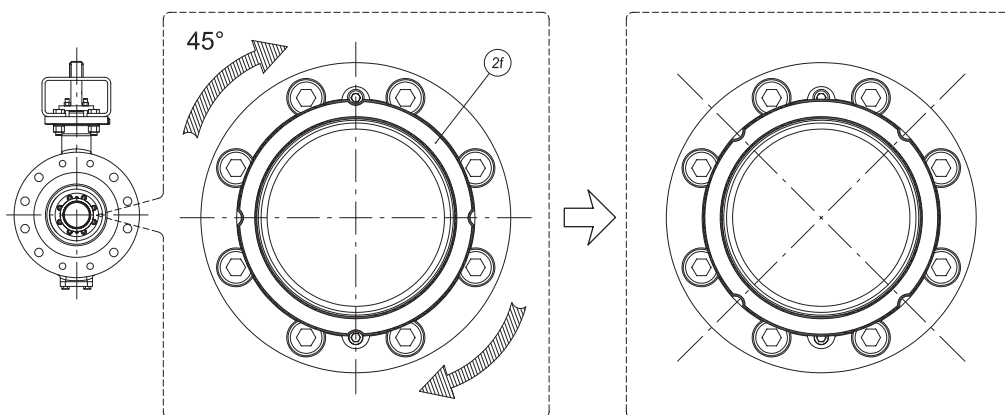

FIGURE 7
3. Rotate the screw securing ring (2f - hereafter SSG) 45° clockwise, until SSG slots and grub screw holes are aligned - figure 7: